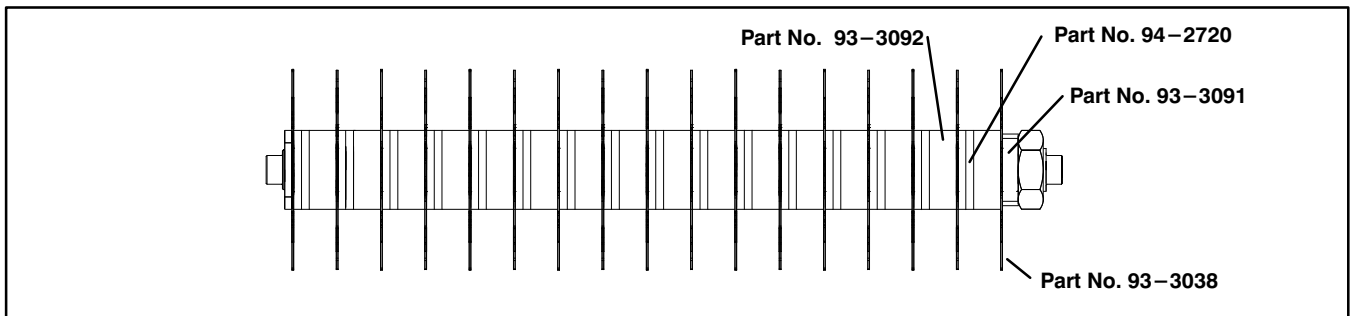

Figure 14
1-1/2" Spacing – Requires (17) Blades (part no. 93-3038), (32) 1/4" Thick Spacers (part no. 94-2720) and (16) 1" Thick Spacers (part no. 93-3092) (Fig. 14).